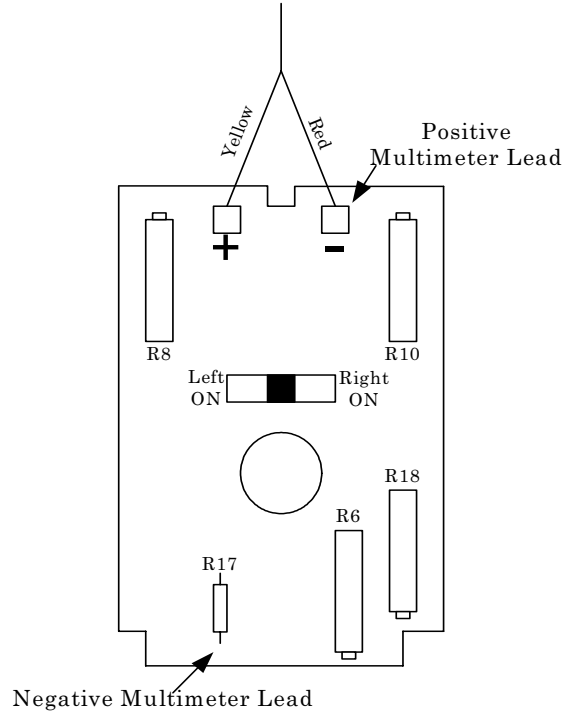

Figure 2. Motherboards – component side
- (1) Remove the four front panel screws and case.
- (2) Connect multimeter no.2 as indicated in figure 2.
- (3) Set multimeter no. 2 to measure dc millivolts.
- (4) Energize TI by moving the slide switch to the right black **ON** position.
- (5) Move temperature selector to the highest output position.
- (6) Adjust R10 (fig. 2) for multimeter no. 2 reading in table 8; corresponding to the ambient temperature recorded in paragraph 7 a above (R).
- (7) Adjust R8 (fig. 2) for in tolerance reading on multimeter no. 1 (R).
- (8) Repeat steps (6) and (7) above until readings are in tolerance.
- (9) Move temperature selector to the lowest output position.
- (10) Adjust R18 (fig. 2) for in tolerance reading on multimeter no. 1 (R).
- (11) Repeat steps (6) through (10) above until readings are in tolerance.
- (12) Move temperature selector to the second lowest output position.
- (13) Energize TI by moving the slide switch to the left white **ON** position.
- (14) Adjust R6 (fig. 2) for in tolerance reading on multimeter no. 1 (R).
- (15) Repeat steps (4) through (14) above until readings are in tolerance.
- (16) Repeat paragraph 8 a.